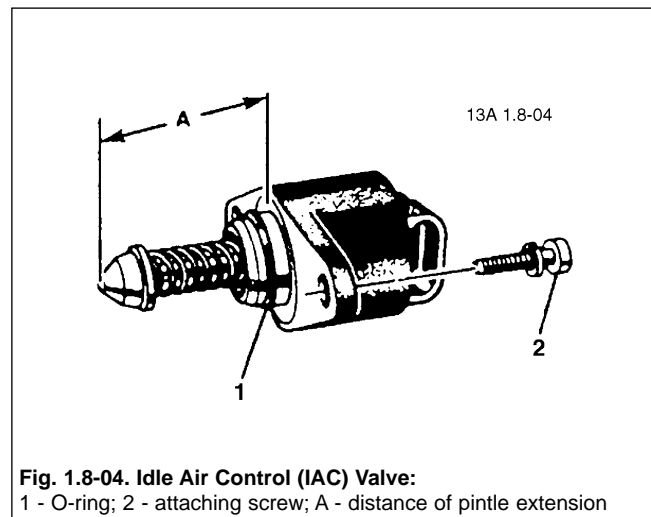

Fig. 1.8-04. Idle Air Control (IAC) Valve:
The ECM controls engine idle speed through the idle air control (IAC) valve (Fig. 1.8-04). The IAC valve is a motor pintle.
Before installing a new idle air control valve, measure the distance that the valve is extended (A) (Fig. 1.8-04). The measurement should be made from the idle air control valve motor housing to the end of the idle air control valve cone.